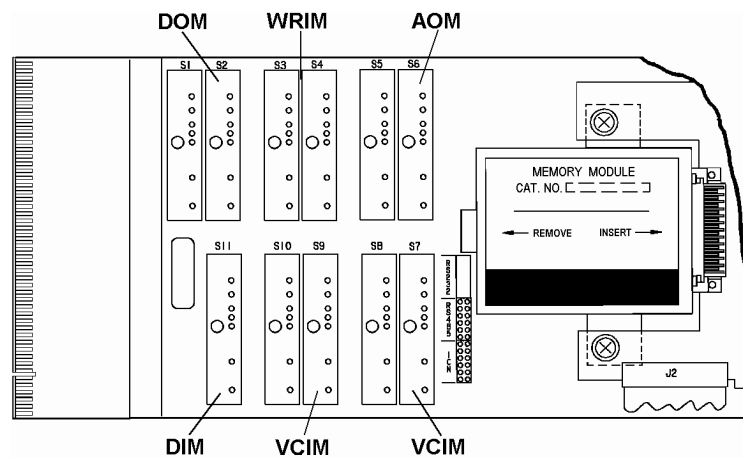

Figure 2-1. Example of an I/O Planning Form for a Controller with I/O Modules
Table 2-1 lists the available I/O module types, their associated data base memory block identifications, and the valid locations for each module type. An I/O planning form is provided to document the planned I/O configuration. An example of the form, listing built-in I/O assignments and the module layout for a controller with five I/O modules, is shown in Figure 2-1. See **Appendix A** for a blank copy of all planning forms.
- The layout of module locations on the carrier board, Figure 2-1, divides locations 1 through 10 into pairs allowing double-wide modules to occupy only five different locations.